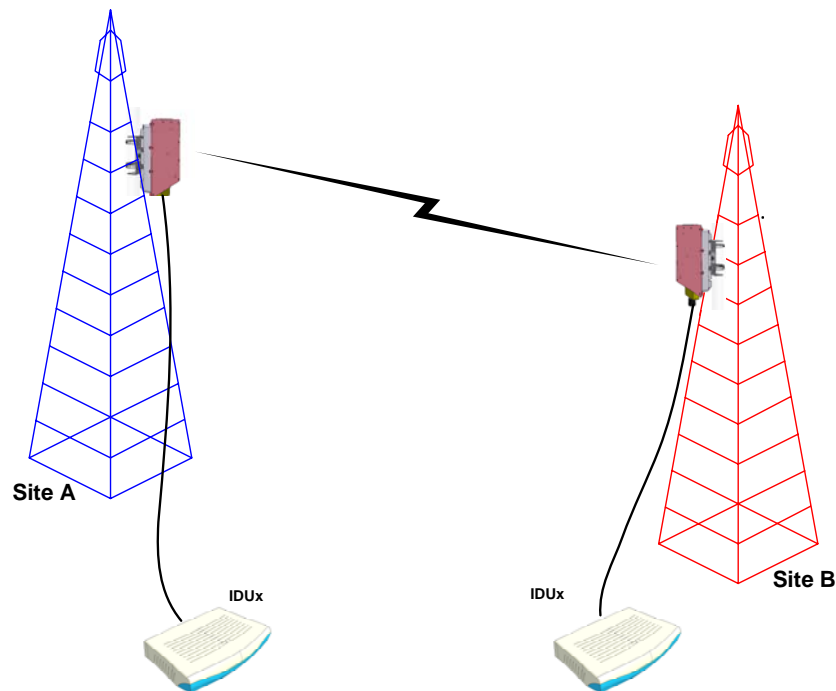

Figure D-1. Airmux-200 Link Setup
Prior to attempting alignment, install the hardware and software in accordance with the *Airmux-200 Installation and Operation Manual*. *Figure D-1* shows the link setup. At least two people are needed to perform the alignment procedures.
2. Connect the equipment as shown in Figure D-1 but connect a spectrum analyzer in place of the remote Airmux-200-AIND.